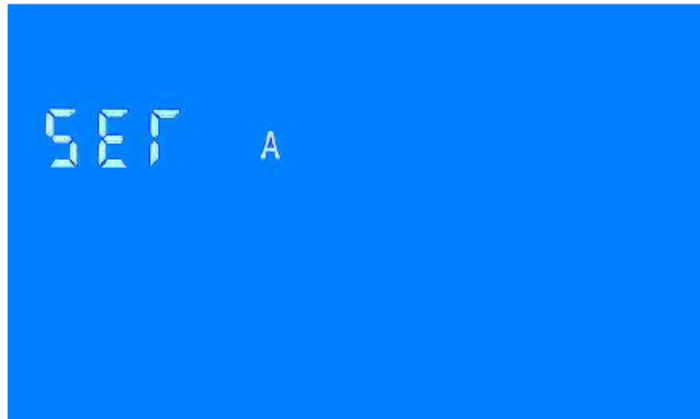

Figure 7 Current range setting interface
- III. Press the button again to cycle through the menu until "Set A" is reached. See Figure 7 below.